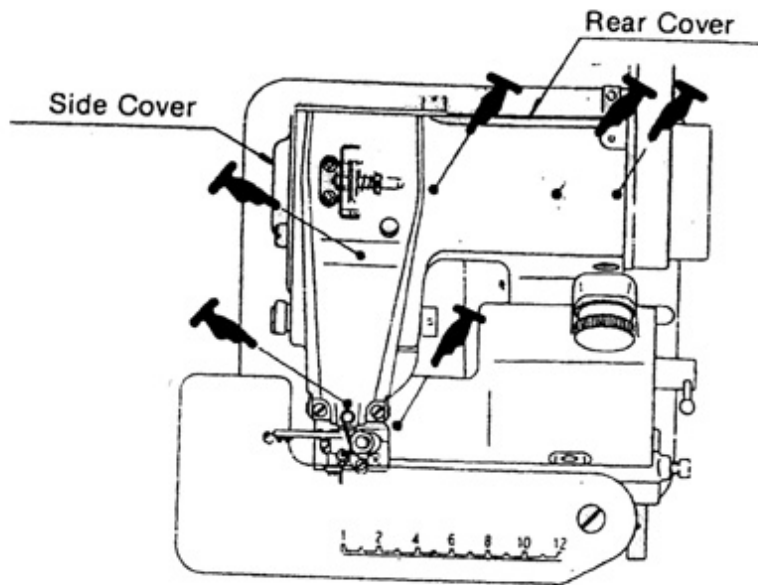

Fig. 7
2. Lubrication (Fig. 7)
Lubrication is important for the trouble-free operation and long service life of the machine. Therefore, after setting-up machine as per paragraph 1, drop a sewing machine oil into all the holes indicated by arrows on Fig. 7, and also drop oil onto the inner moving parts after opening the side cover and rear cover of machine.
Daily and before operating machine, place one or two drops of sewing machine oil into all the oil holes indicated by arrows on Fig. 7.